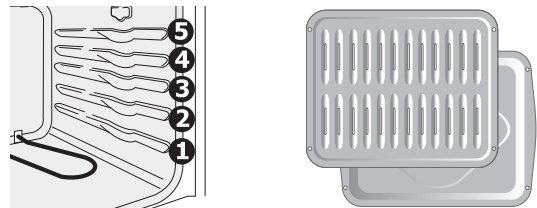

Figure 6: Rack positions (L) and broiler pan (R)
4. Place the insert on the broil pan (if equipped), then place the food on the broil pan insert (Figure 6).